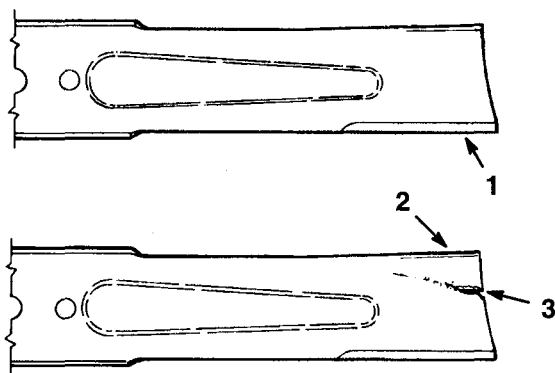

Figure 22
2. Inspect the cutting edges (Fig. 22). If the edges' are not sharp or have nicks, remove the blade(s) and sharpen them; refer to Sharpening the Blade(s), page 17.
3. Inspect the blade(s), especially the curved area (Fig. 22). If you notice any damage, wear, or a slot forming in this area (Fig. 22), immediately install a new blade.